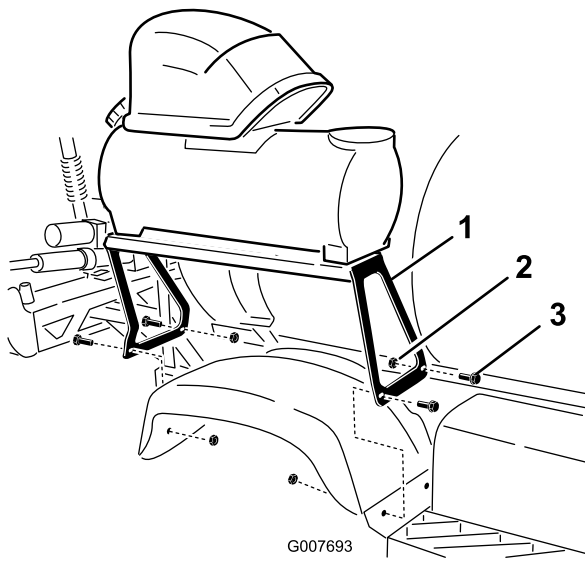

Figure 5
3. Install the bracket to the holes in the right rear fender using 4 carriage bolts (5/16 1-1/4 inch) and 4 locknuts (5/16 inch) as shown in Figure 5.